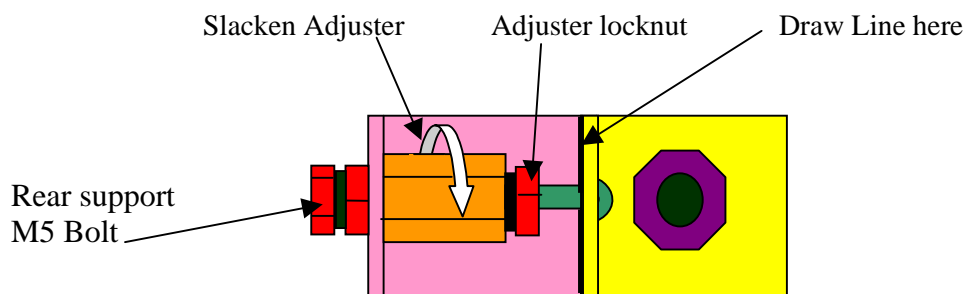

Figure 15 Showing position of Belt Adjuster
- Using an 8mm spanner, loosen the M5 adjuster locknut on the left and right belt tension adjusters, then fully remove the rear support bolt, at each side. (Fig 15)